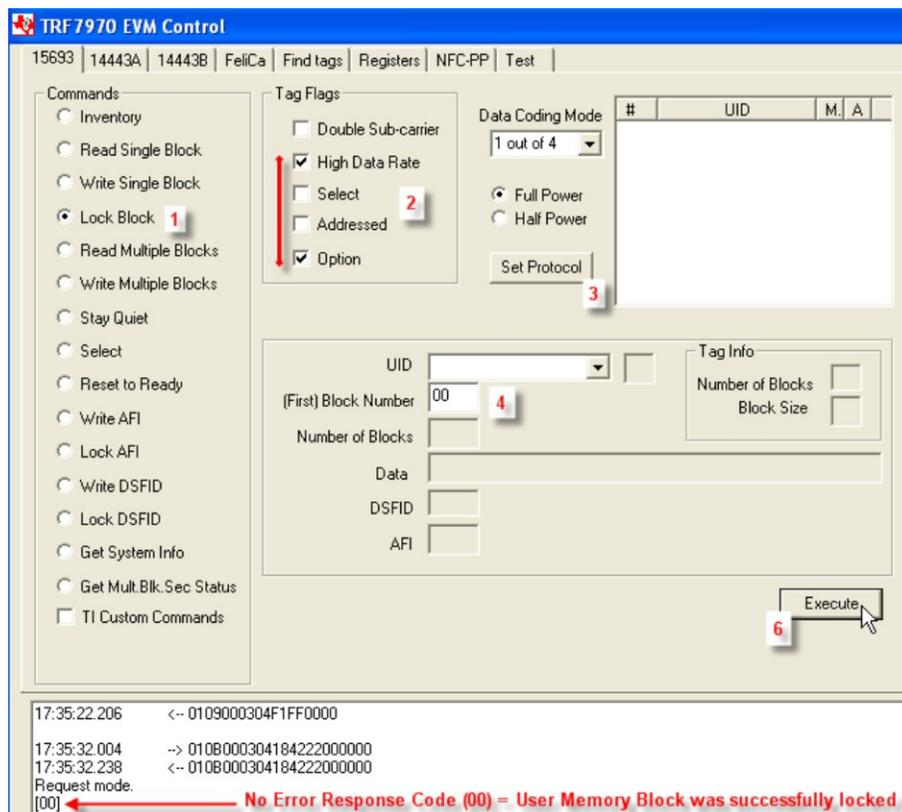

Figure 9. Lock Block Command Example
2. Select Tag Flags accordingly (see Figure 9 for one example, and note use of option flag)